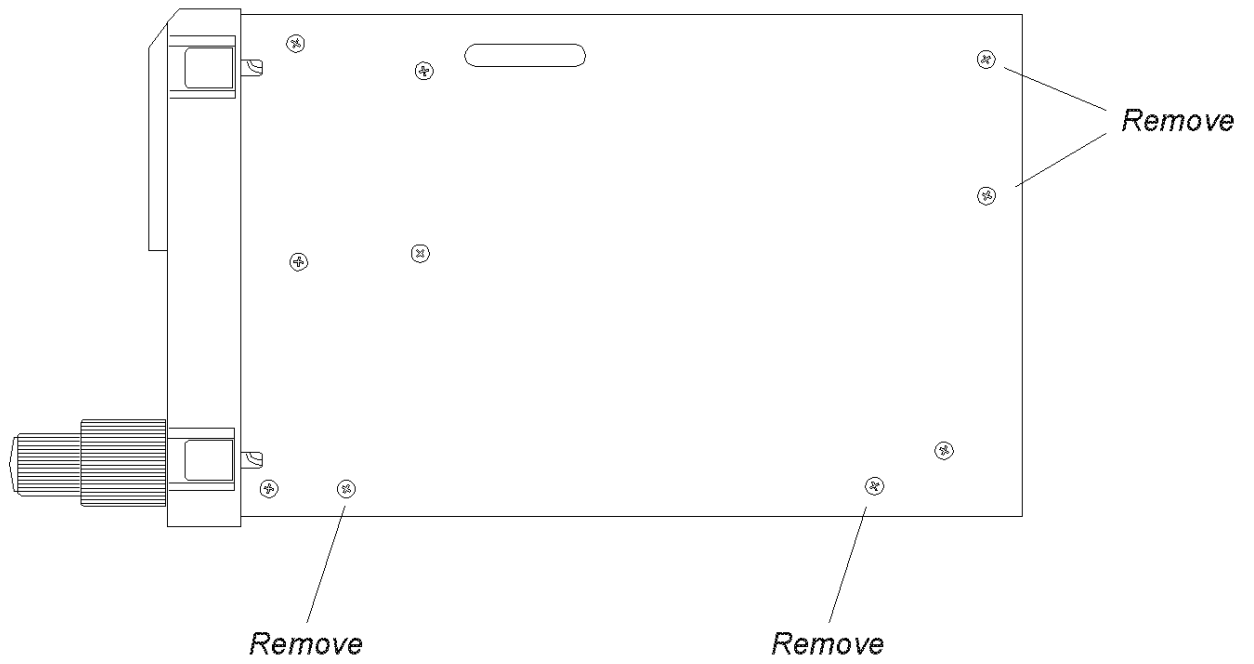

Figure 1. Screw Locations to Remove C-5000 Bottom Cover
1. Remove the bottom cover of the C-5000 to access the Main Board. The bottom cover is secured to the chassis by eight Phillips-head screws, four located on the left side and four located on the right side of the unit. See Figure 1.